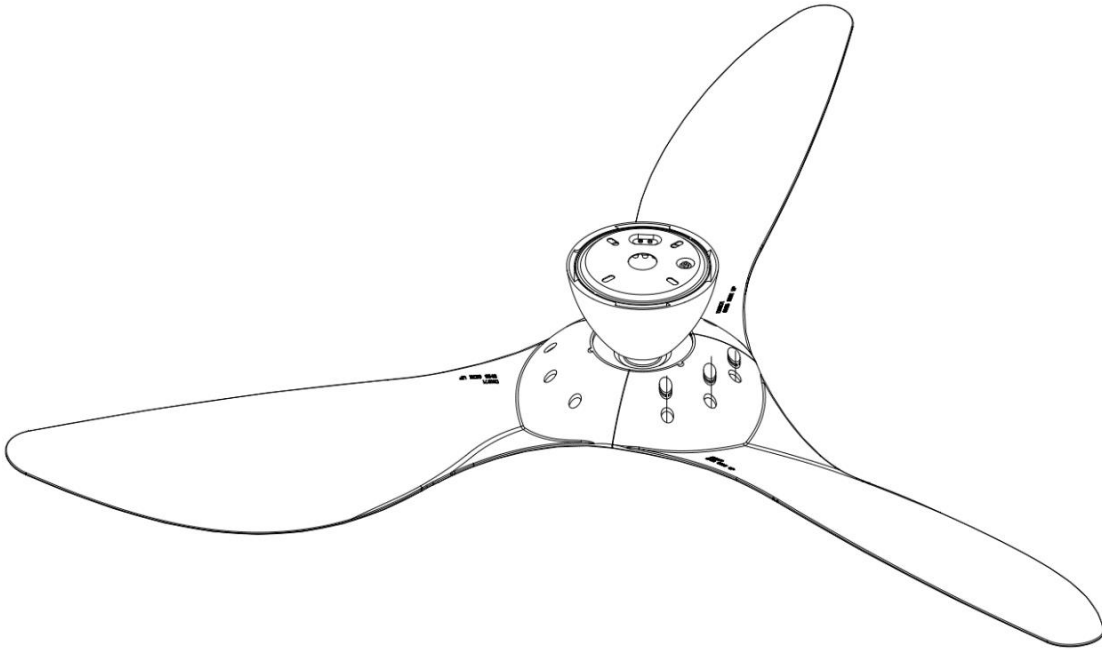

Fig. 9
- Install the decorative chips into the blade screw holes. (Fig.9)